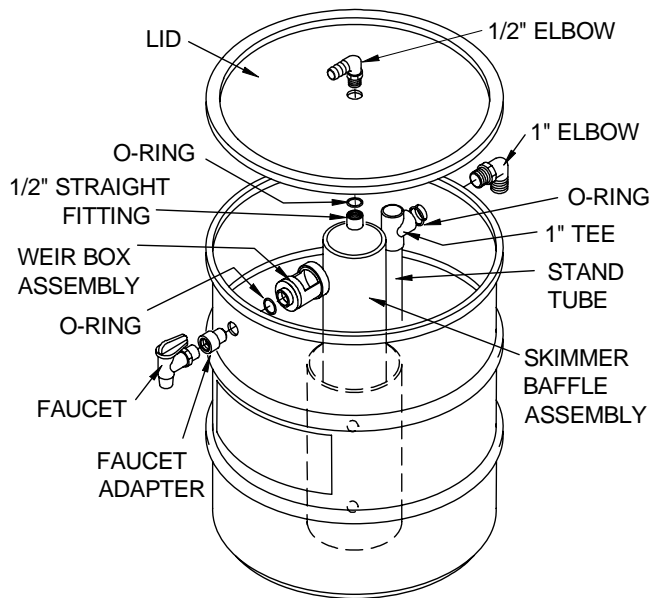

Figure 2
1. Install the Faucet Adapter to the 3/4" Faucet. Install the assembly through the smaller of the two holes in the side of the reservoir. Install a 3/4" O-Ring on the inside of the reservoir over the faucet adapter threads. Install the Weir Box Assembly on the faucet adapter. The Weir Box opening must be at the top when tightened (see Fig. 2).
Note: When tightening the Weir Box and fittings against the O-Rings, tighten enough to seal around the opening but not enough to force the O-Ring into the opening. Install the 1" Male Elbow in the 1" hole opposite the Weir Box. Install a 1" O-Ring over the threads on the inside of the reservoir and install the 1" Tee. Position the Tee as shown and press the Stand Pipe into the bottom of the Tee until seated (See Fig. 2).
3. Install the 1/2" Male Elbow in the reservoir lid. Install the 1/2" O-Ring and 1/2" Straight Fitting inside the reservoir lid (see Fig. 2).
4. Place the Skimmer Baffle Assembly in the reservoir so it is centered on the bottom of the reservoir (see Fig. 2).